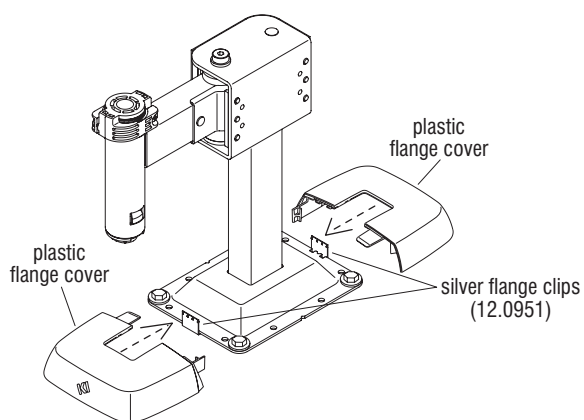

Figure 3 - Fixed-Height Swing-Arm Base
1. Jury Base flange covers are prepared at the factory to fit correctly around the rectangular base. Snap the flange covers together around the base and push down to the floor to engage the flange clips (Figures 3 & 4).